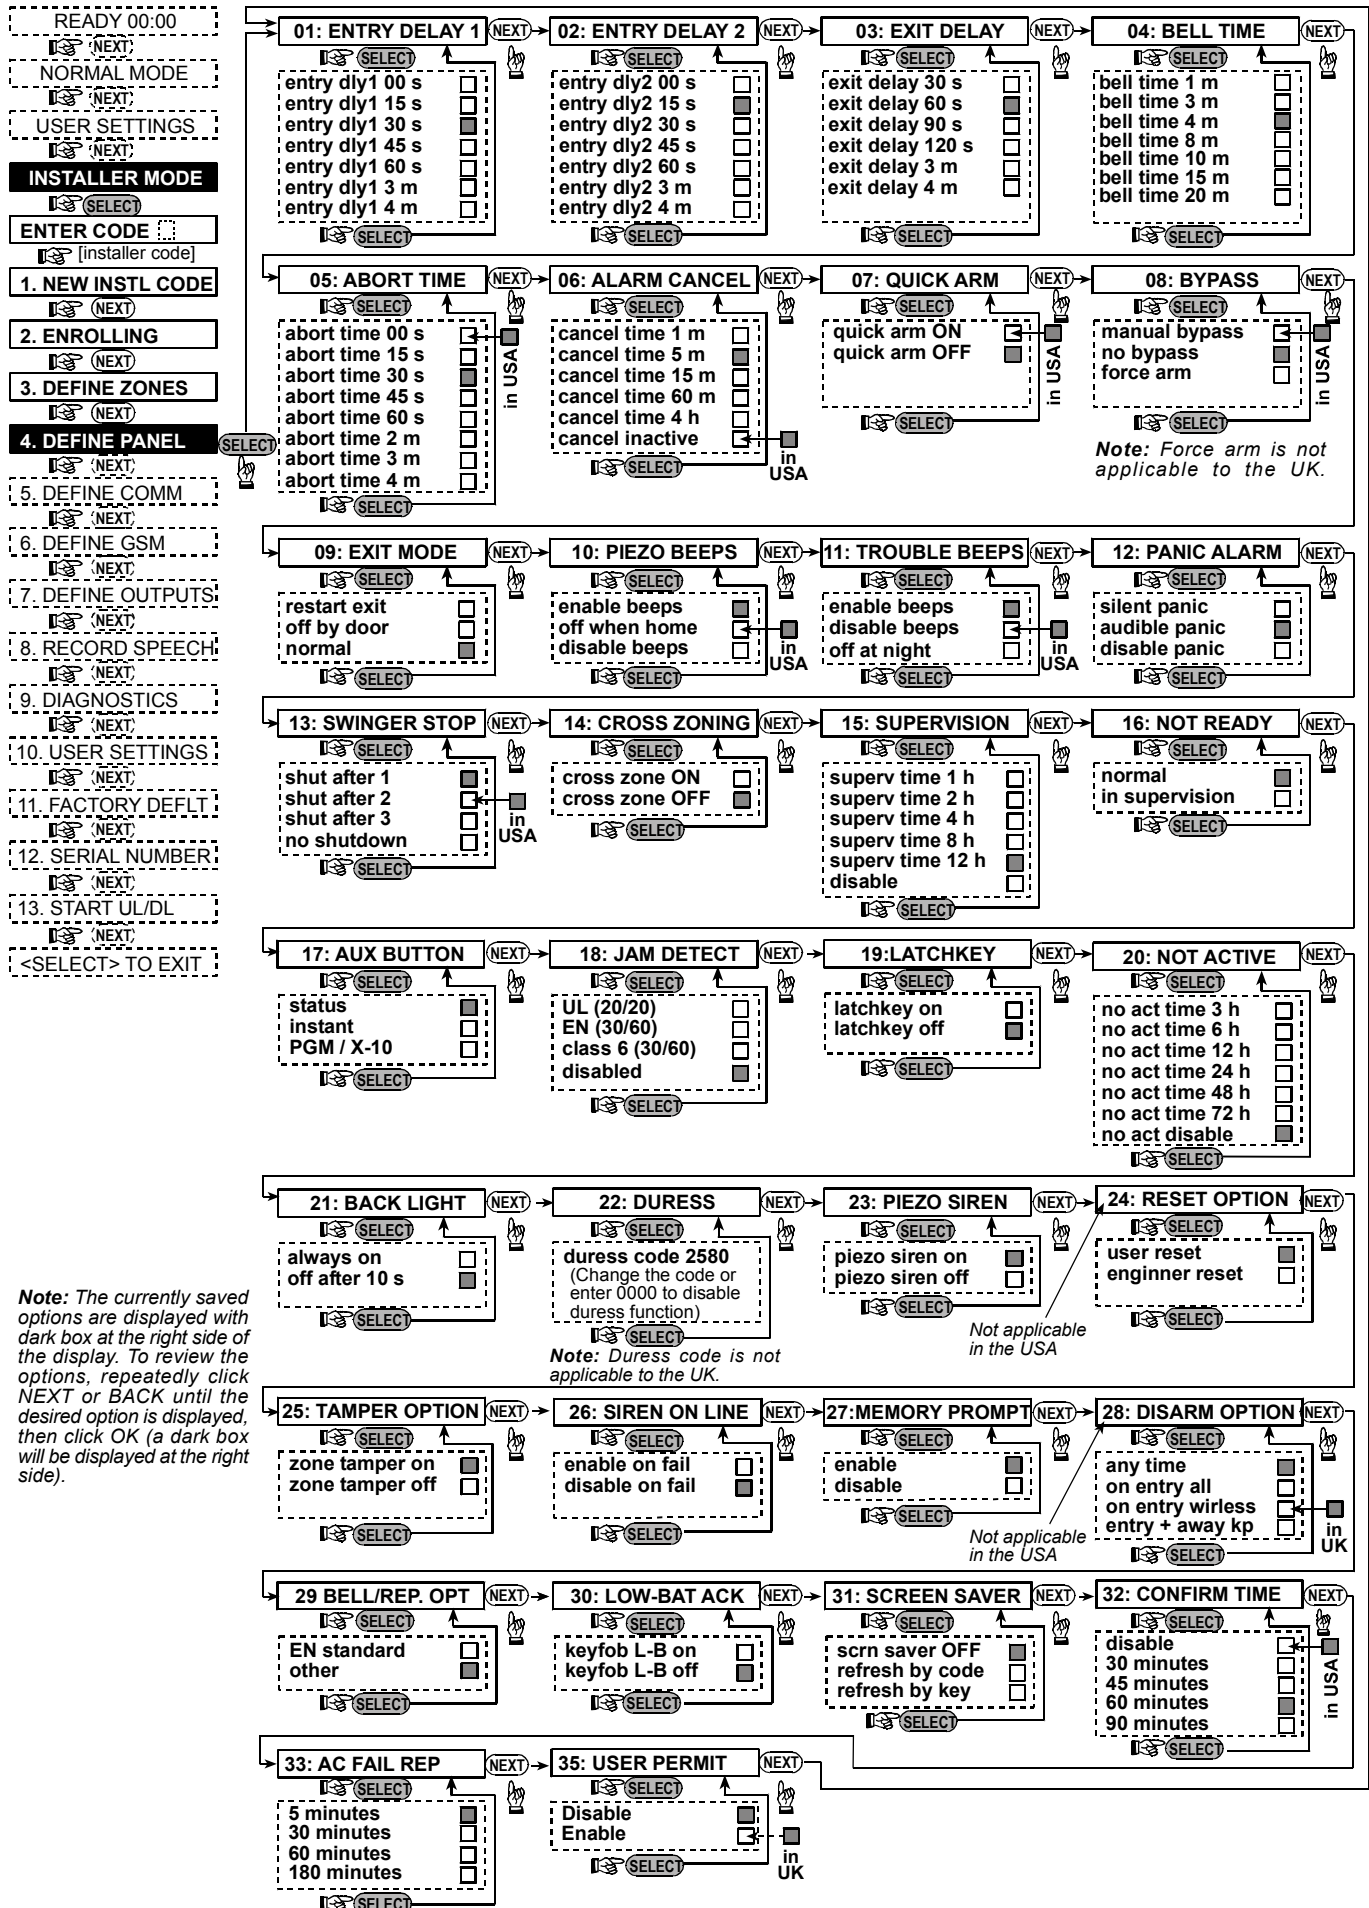

Figure 4.4 - DEFINE PANEL Flow Chart
4.4.10 Piezo Beeps (fig. 4.4, location 10)
4.4.11 Trouble Beeps (fig. 4.4, location 11)
4.4.12 Panic Alarm (fig. 4.4, location 12)
4.4.13 Swinger Stop (fig. 4.4, location 13)
4.4.14 Cross Zoning (fig. 4.4, location 14)
4.4.15 Supervision (fig. 4.4, location 15)
4.4.16 NOT READY (fig. 4.4, location 16)
4.4.17 AUX Button (fig. 4.4, location 17)
4.4.18 Jam Detect (fig. 4.4, location 18)
4.4.19 Latchkey (fig. 4.4, location 19)
4.4.20 “Not Active” (fig. 4.4, location 20)
4.4.21 Back Light (fig. 4.4, location 21)
4.4.22 Duress (fig. 4.4, loc. 22)
4.4.23 Piezo Siren (fig. 4.4, location 23)
4.4.24 Reset Option (fig. 4.4, location 24)
4.4.25 Tamper Option (fig. 4.4, location 25)
4.4.26 Siren On Line (fig. 4.4, location 26)
4.4.27 Memory Prompt (fig. 4.4, location 27)
4.4.28 Disarm Option (fig. 4.4, location 28)
4.4.29 Bell/Rep. Option (fig. 4.4, location 29)
4.4.30 Low-Bat Ack (fig. 4.4, location 30)
4.4.31 Screen Saver (fig. 4.4, location 31)
4.4.32 Confirm Alarm (fig. 4.4, location 32)
4.4.33 AC FAIL REP (fig. 4.4, location 33)
4.4.35 User Permission (fig. 4.4, location 35)